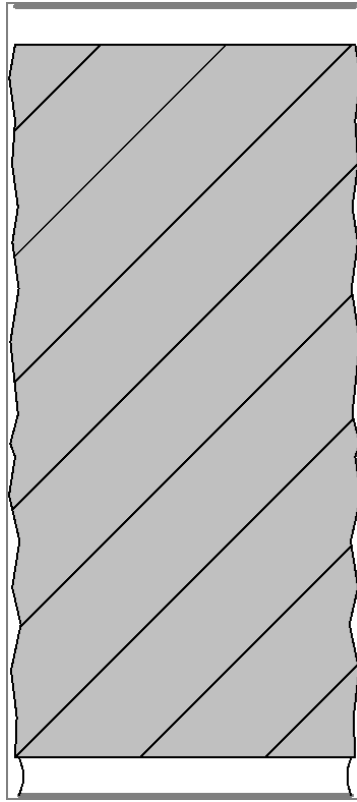

FIGURE 12.28: The finished brick
17. Press Esc. Your brick should now look like Figure 12.28.